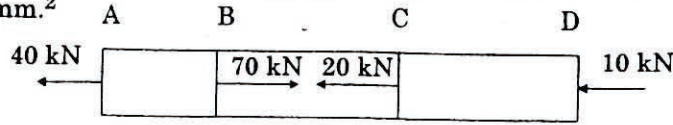

Fig 1
- (b) A brass bar, having cross-section area of 900 mm^2 , is subjected to axial forces as shown in Fig. 1, in which $AB = 0.6 \text{ m}$, $BC = 0.8 \text{ m}$, and $CD = 1.0 \text{ m}$. Find the total elongation of the bar. Take $E = 1 \times 10^5 \text{ N/mm}^2$